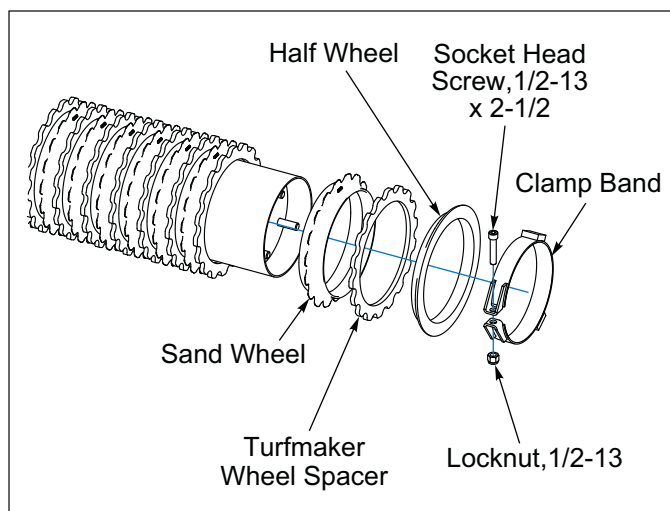

Figure 2-60: Turfmaker Sprockets
1. Position the Turfmaker Wheel Spacer between each 4C689 Sand Wheel. **See Figure 2-60.**